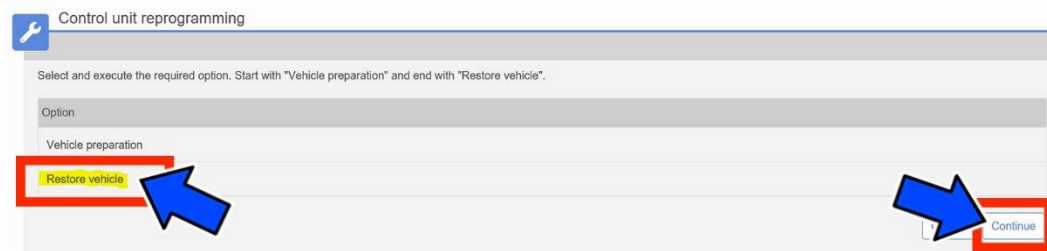

Figure 34 - Restore Vehicle
19. Select “**Restore Vehicle**” and then click “**Continue**” (Figure 34).